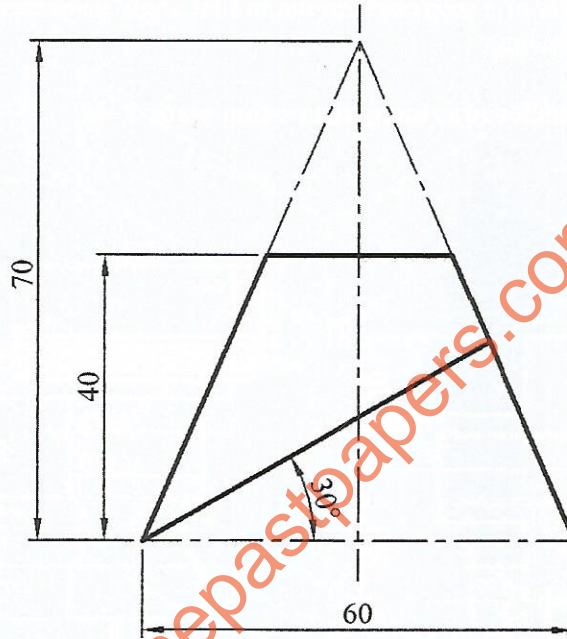

Figure 6
12. **Figure 6** shows a cone truncated at the top and bottom. Copy the figure and draw the surface development of the cone. (15 marks)